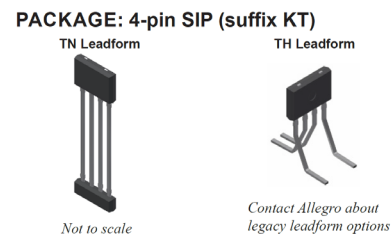

Figure 9: KT Lead-forming Options
The ACS70310 coreless current sensor is offered in through-hole KT (TN) and surface-mount KT (TH) leadforming options. Lead-forming options are shown in Figure 9. For more information, refer to the ACS70310 and ACS70311 device datasheet.